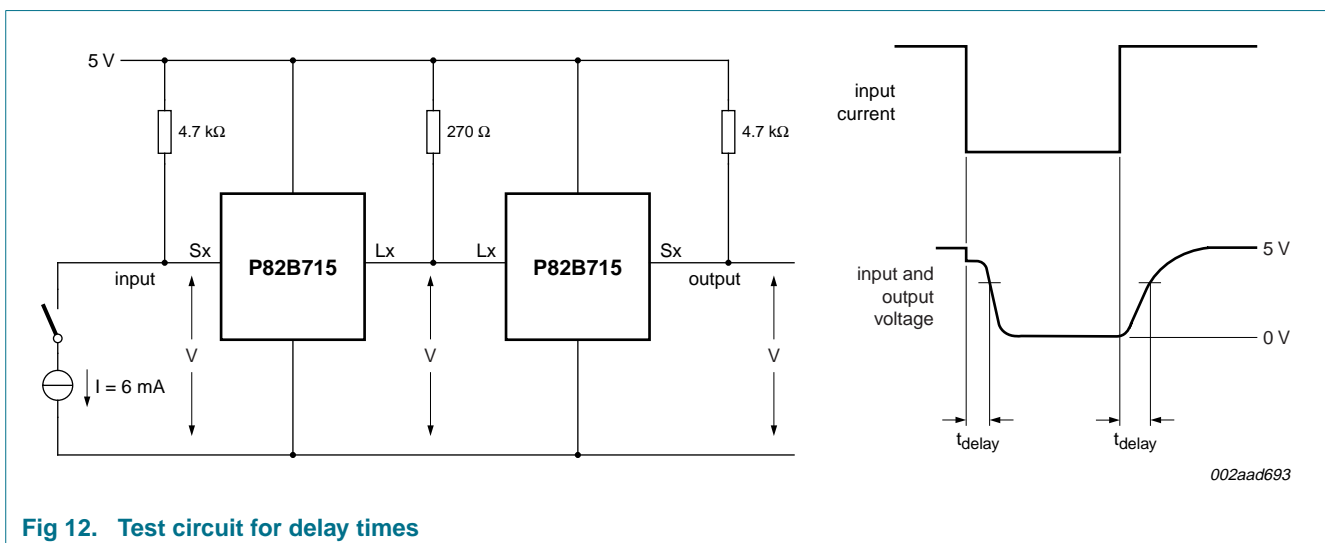

Fig 12. Test circuit for delay times
- [3] A conventional input-output delay will not be observed in the  $Sx/Lx$  voltage waveforms because the input and output pins are internally tied with a 30  $\Omega$  resistor so they show equal logic voltage levels, to within 100 mV. When connected in an I2C-bus system, an  $Sx/Sy$  input pin cannot rise/fall until the buffered bus load at the output pin has been driven by the internal amplifier. This test measures the bus propagation delay caused to falling or rising voltages at the  $Lx/Ly$  output (as well as the  $Sx/Sy$  input) by the amplifier's response time. The figure given is measured with a drive current as shown in Figure 12. Because this is a dynamic bus test in which a corresponding bus driving IC has an output voltage well above 0.4 V, 6 mA is used instead of the static 3 mA.